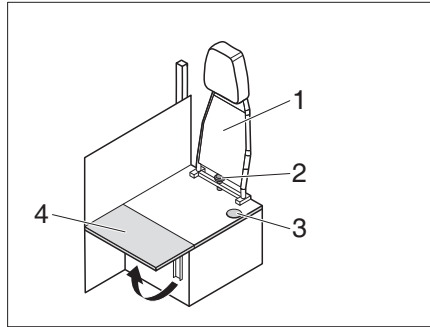

Fig. 216 Conversion drive - living mode
- Unscrew the star screw (Fig. 216,2) and remove the backrest (Fig. 216,1) towards the top.
- Fold up the bench seat extension (Fig. 216,4).
- ▷ When converting from living to travel mode proceed in the reverse order. Make sure that the safety belt is lead through the opening (Fig. 216,3).